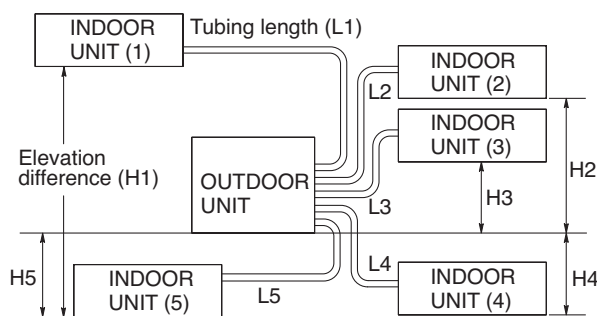

**Fig. 1**
- select a location where tubing and drain hose have the shortest run to the outside. (Fig. 1)